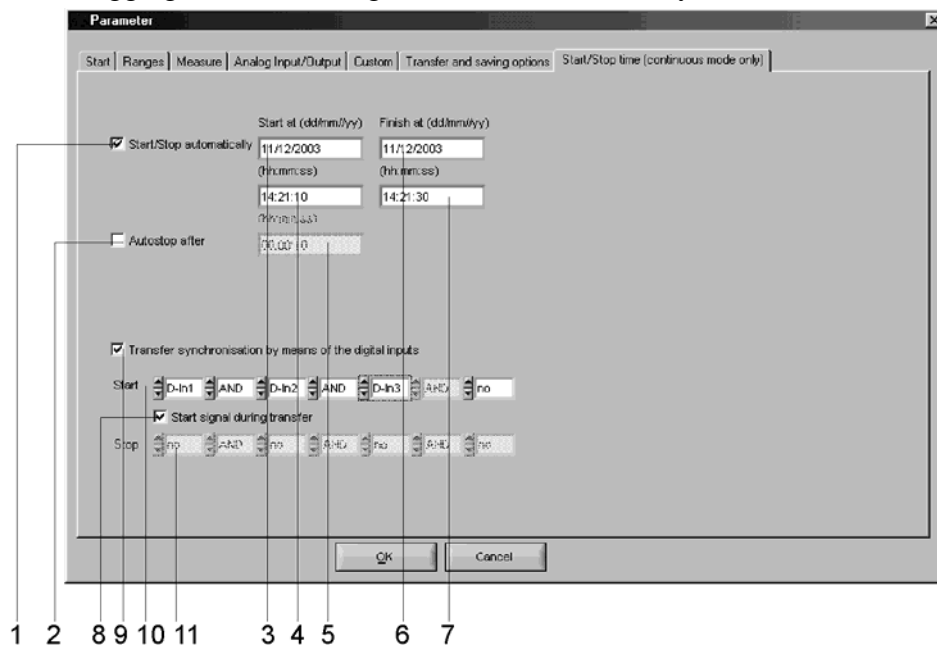

Fig. 11
On the property page “Start/Stop” (Fig. 11) you can choose the duration of the measurement, by clicking “Autostop” (2) control. In this case the measurement will be started by pushing the “Measuring” button and will be stopped automatically after the measuring time from (5) is over. If you use the “Start/Stop automatically” (1), you can enter the date and time of starting (3,4) and finishing (6, 7) of the measurement. The start and stop can also be synchronised with external digital inputs of a LMG. The combination of the different conditions for start and stop can be set up in the fields 10 and 11. The activating of the box 8 “Start signals during transfer” means that the data logging will be started if the digital input values correspond to the values from 10 and the logging will run as long as these values will stay the same.